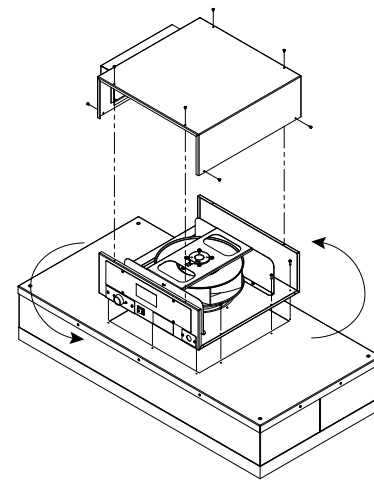
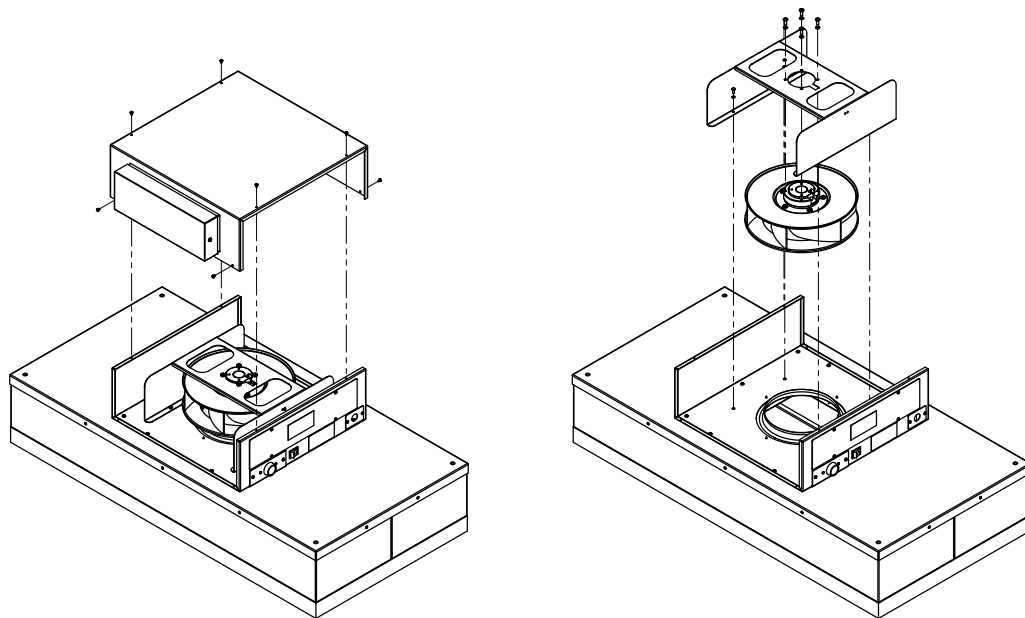

FIGURE 8: 90° EXHAUST DIRECTION CHANGE
FIGURE 11: MOTOR REPLACEMENT
Step 3. Rotate the blower housing 90° in either direction. (See Figure 8.)
Step 4. Remove the screws to free the motor/blower cover. (See Figure 8.) If using power drivers, set the unit to a low torque setting to avoid stripping the sheet metal screws (See Figure 11.)